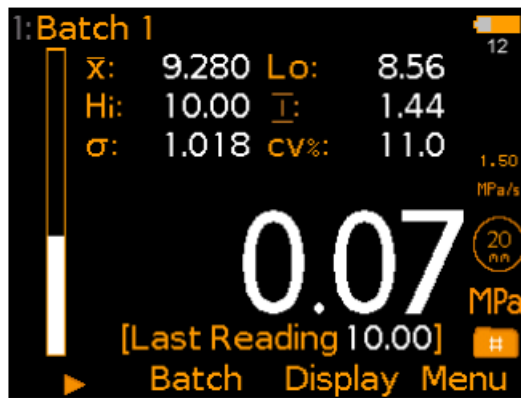

Fig. 2: Selected Statistics
- Selected Statistics (Fig. 2); As defined by the user via Display/Statistics/Select Statistics. The user can choose to view only those selected or view all. Select from: